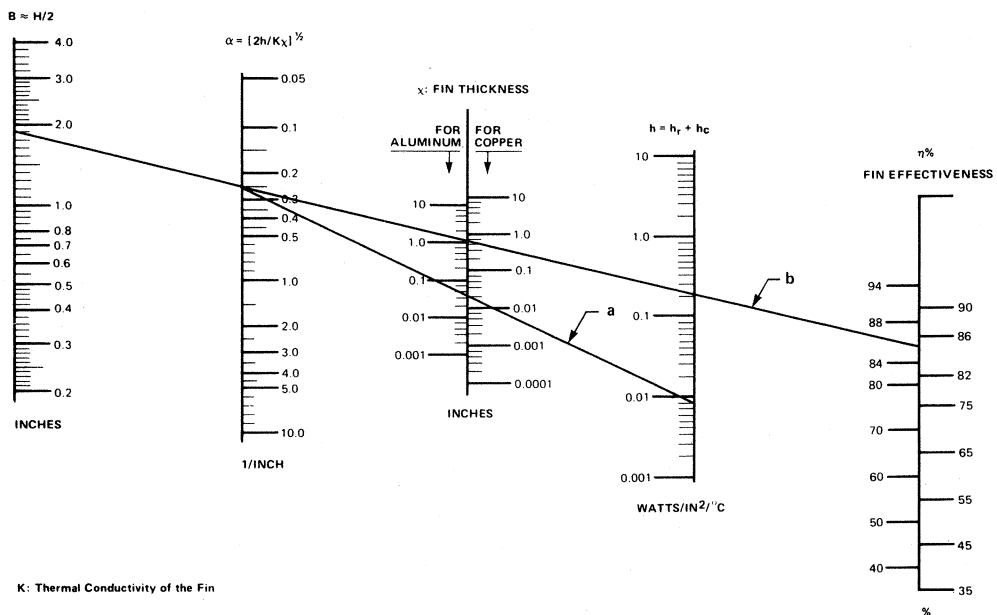

FIGURE 4.14.6 Fin Effectiveness Nomogram for Symmetrical, Flat, Uniformly-Thick, Vertically Mounted Fins
Fin effectiveness factor η includes the effects of fin thickness, shape, thermal conduction, etc. It may be determined from the nomogram of Figure 4.14.6.
The procedure for use of the nomogram of Figure 4.14.6 is as follows:
5. Find fin effectiveness factor η from Figure 4.14.6.
7. If θ_{SA} is too large or unnecessarily small, choose a different height and repeat steps (3) through (6).
6. From h and f_{in} thickness use Figure 4.14.6 to find α (line a)
8. From Figure 4.14.6 (line b)